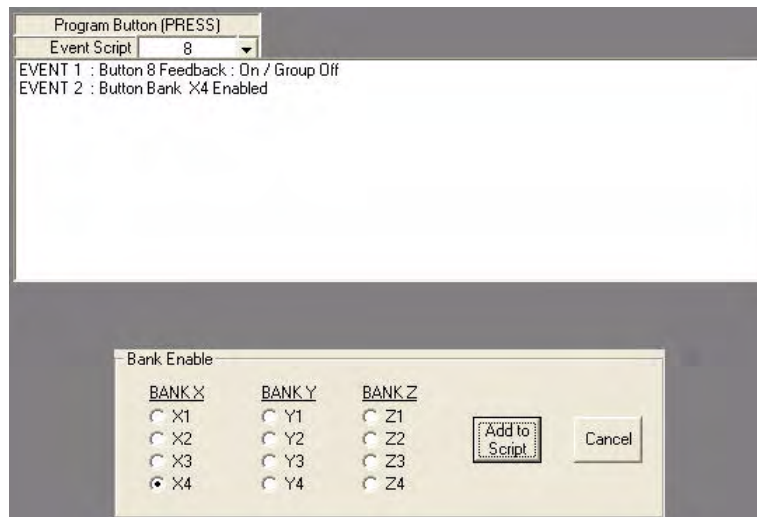

FIG. 71 Button 8 script, with Enable X4 Bank selected
- Write a script for the Tuner select button including enable Bank X4 in the script (FIG. 71).